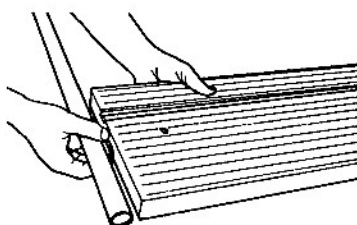

Fig. A-19
21. Place a fixed extension table between the fence tubes and insert a thumb screw into the next to last hole, for both fence tubes. The fixed extension table should rest between the fence tubes. If it doesn't, slightly screw out each thumb screw. (It would be best if a helper held the extension table in place.) See Figs. A-19 and A-20.